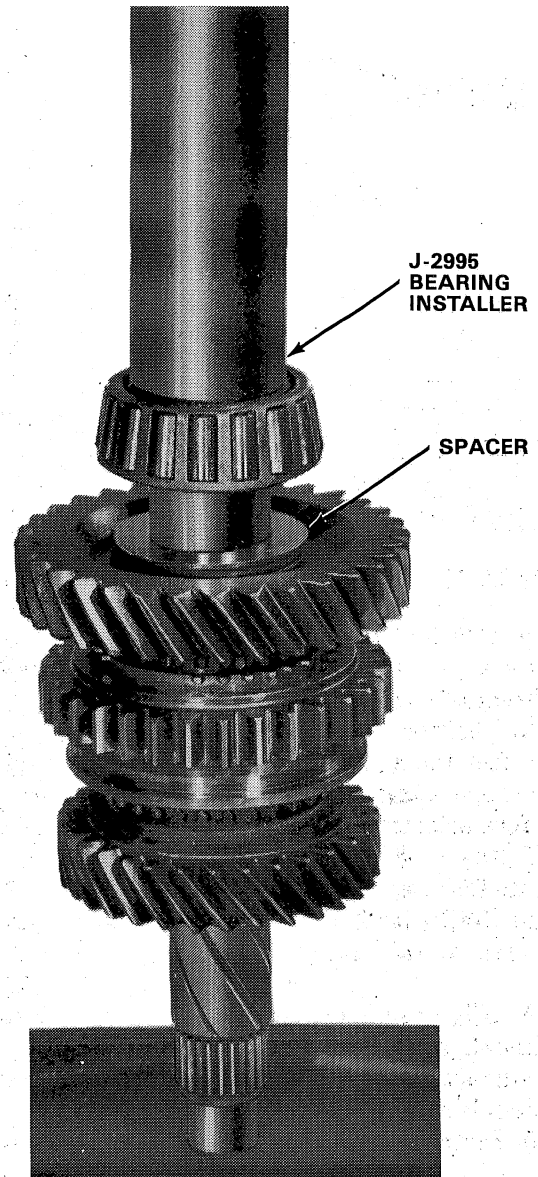

Fig. 2B-32 Rear Output Shaft Bearing Installation
- (1) Coat countershaft front bearing outer cage with Loctite 601, or equivalent, and install countershaft front bearing flush with case using arbor press (fig. 2B-33).
- (2) Coat countershaft tabbed thrust washer with petroleum jelly. Install thrust washer so tab engages corresponding depression in case.
- (3) Tip case on end and install countershaft in front bearing bore.